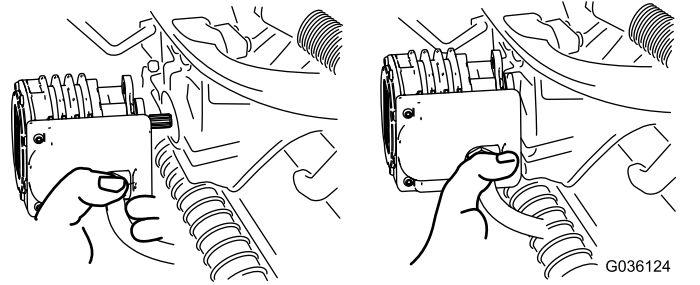

Figure 67
4. Move the motor to the storage location on the front of the suspension arm (Figure 67).